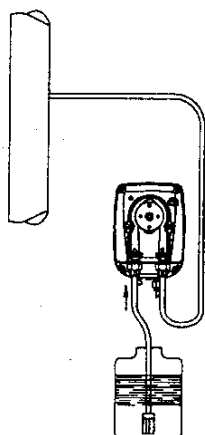

Fig. 5
- Locate the pump as shown in Fig. 5 bearing in mind that it may be installed either below or above the level of the liquid to be dosed, though the level difference should not exceed 2 meters. In case of liquids that generate aggressive vapours, **do not** install the pump above the storage tank unless the latter is hermetically sealed.